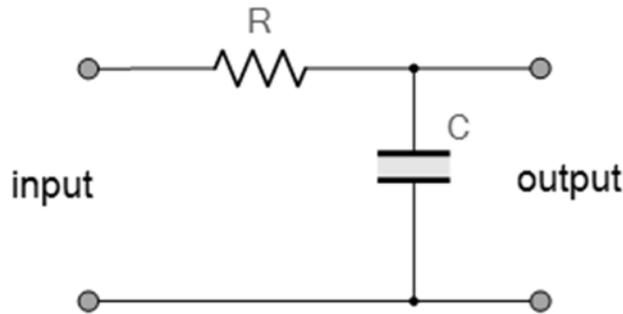
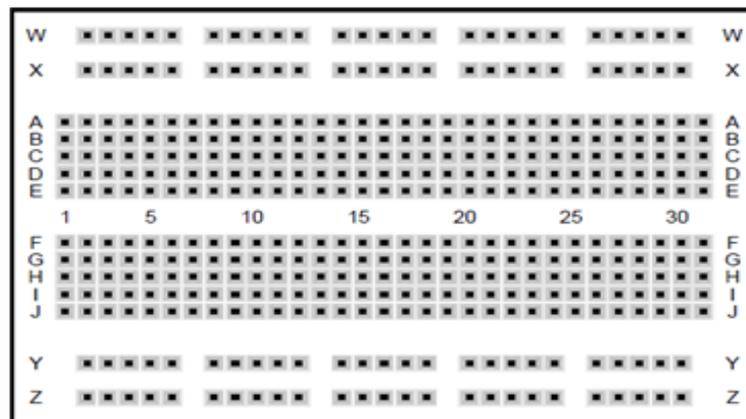

FIGURE 4.7.16
FIGURE 4.7.17
4.7.6 Construct the integrator circuit in FIGURE 4.7.16 below on the breadboard in FIGURE 4.7.17 below. Draw the component layout on the figure.